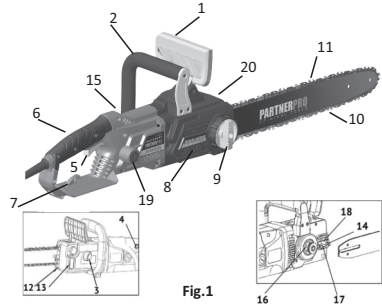

Fig.1
The working body of the saw is a saw unit, consisting of an endless (closed) saw chain (Fig. 1, pos. 11) running along a guide rail (Fig. 1, pos. 10).
1.3 Switching the saw into operation is carried out by pressing the switch key (Fig. 1, pos. 5). The switch has a lock against accidental switching on. By pressing the button (Fig. 1 pos., left on the rear handle), the switch key is unlocked.
After pressing the switch key (fig.1 pos.5), the drive sprocket sets the saw chain in motion. The released key and the lock button return to their original position - <off>.
A general view of the saw is shown in Figure 1, consisting of 2 halves, fastened with screws, there are: a switch key (Fig. 1 pos. 5) and a lock button (Fig. 1 pos. 4) keys.
The gearbox, chain brake and lubrication system are located in the gearbox housing (Fig. 1 pos. 20), the torque from the armature of the electric motor is transmitted by a pair of bevel gears to the saw spindle. An asterisk is mounted on the spindle, which converts the rotational movement of the spindle into linear movement of the chain along the guide rail. The chain is the main working tool of the saw.
The tire cover is attached to the right half of the gearbox housing (Fig. 1, pos. 8). The tire with the chain and the tire cover are mounted on a stud (Fig. 1, pos. 18) and fastened with a nut (Fig. 1, pos. 9).
On the left half of the gearbox housing are located: an oil tank cover (Fig. 1, pos. 3) and an oil level control window (Fig. 1, pos. 13).
- having unscrewed the fixing nut (fig.1 pos.9), remove the tire cover (fig.1 pos.8);
- by turning the screw (fig.1 pos.14) counterclockwise move the tension pin (fig.1 pos.17) to the extreme left position. Install the tire on the fastening stud (Fig. 1, pos. 18), while the tension finger must enter the installation guide bar hole;
- put the saw chain (Fig. 1, groove 11) on the drive sprocket (Fig. 1, pos. 16). Lay the top of the chain in the groove of the bar, pass the chain between the teeth of the driven sprocket at the front end of the bar;
- slightly tighten the chain with the screw (fig.1 pos.14), turning it clockwise;
- install the tire cover and lightly tighten the fixing nut (fig.1 pos.9).
saw. As the chain breaks in, it will stretch, so more frequent inspection is required. The chain tension is adjusted with a screw (Fig. 1 pos. 14) with a loosened bar nut (Fig. 1 pos. 9)
- unscrew the oil tank cap (fig.1 pos.3);
- fill the tank with oil up to the top of the window (fig.1 pos.13, make sure that no dirt gets into the tank);